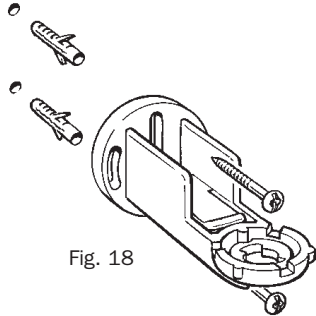

Fig. 18
6. Using two of the wall plugs and the screws supplied, attach bottom bracket to the wall, then slide on the bracket cover, Fig. 18 and 19.